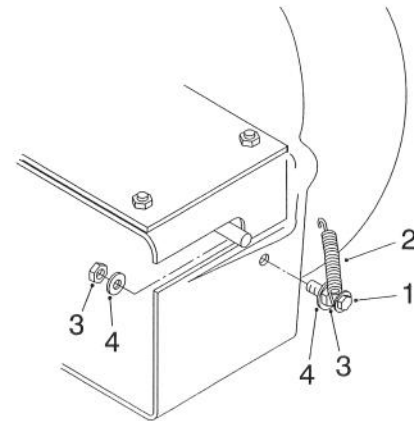

Figure 4
4. Insert a #10 x $\frac{3}{4}$ " screw through the extended loop at the end of the tension spring (Fig. 4). Screw one #10 nut to within $\frac{1}{8}$ inch (3.2 mm) from the screw head, allowing the spring to pivot freely (Fig. 4).
5. Slide one $\frac{7}{32}$ " flat washer onto the spring and screw assembly (Fig. 4). Insert the screw through the hole in the blower housing from the outside and secure it in place with another flat washer and nut (Fig. 4). Tighten the nut.